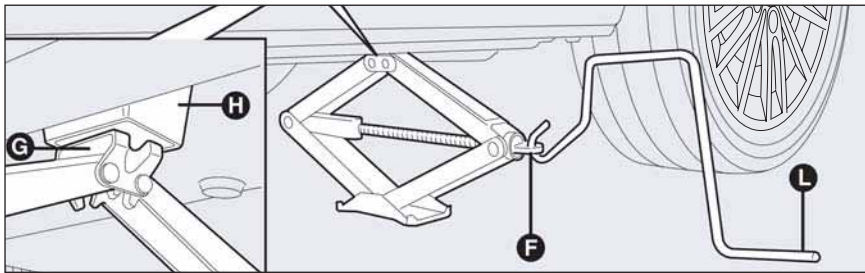

fig. 8
- operate the device **F-fig. 8** to extend the jack until the top of the jack **G-fig. 8** fits correctly into catch **H-fig. 8**;
- fit the handle **L-fig. 8** to operate the jack and lift the car until the wheel to be changed is several centimetres off the ground;
- turn the jack handle **L-fig. 8** to lower the car and remove the jack;